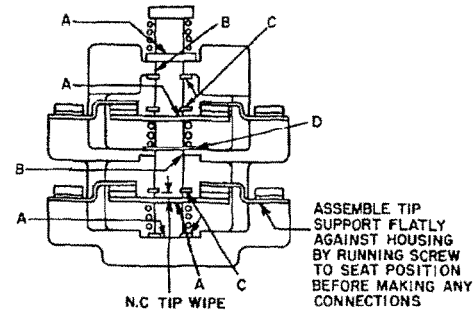

Fig. 42. Interlock block with normally closed contacts in unoperated position
This interlock has been designed so that the movable or stationary contacts can be replaced or rearranged to change an individual assembly to give a different number of normally open or closed contacts. When these operations are performed, the parts must be reassembled in accordance with Fig. 42, 43 and 44, the previous instructions and the following requirements.
1. The spring ends must not protrude into the holes (A), slots (B), or keys (C), which serve as guides for the operating rod (see Fig. 42).
3. Contact blocks with two normally closed circuits require a spring spacer (D) as shown in Fig. 42 to assure that the center spring is properly in place.
4. When circuits are rearranged to obtain one normally open and one normally closed circuit, the normally closed circuit must be located at the bottom as shown in Fig. 42.